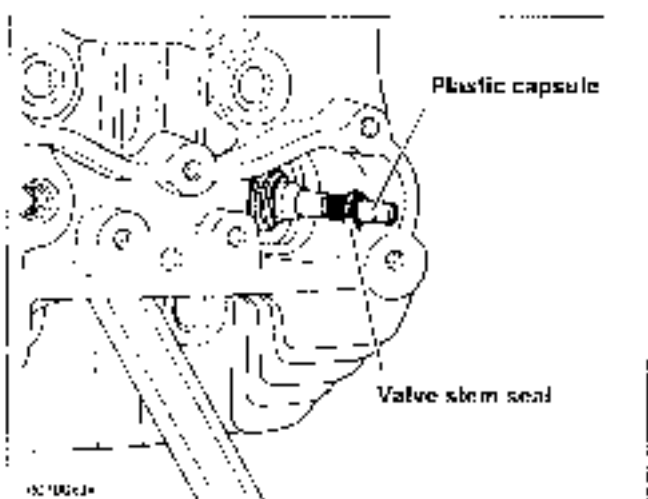

Figure 3-104. Install Valve Stem Seal
- See Figure 3-104. Apply a very thin film of clean HD 20W50 engine oil to capsule. Slide new valve stem seal over capsule and down valve stem until contact is made with top of valve guide. Remove capsule from valve stem tip.